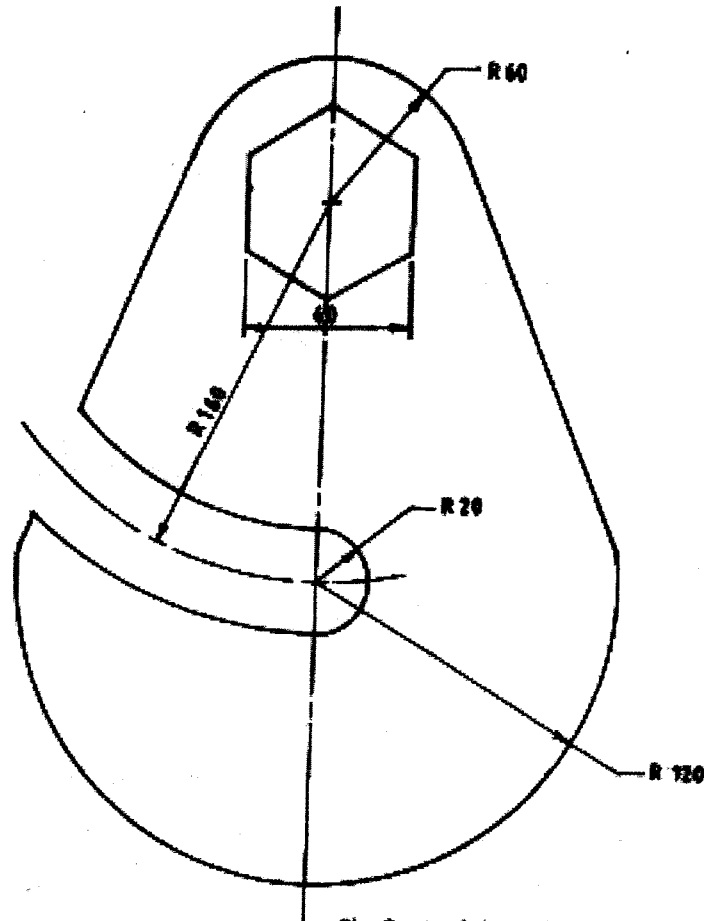

Fig. 2 (not to scale)
2. Construct the plate shown in figure 2 using a scale of 1:2